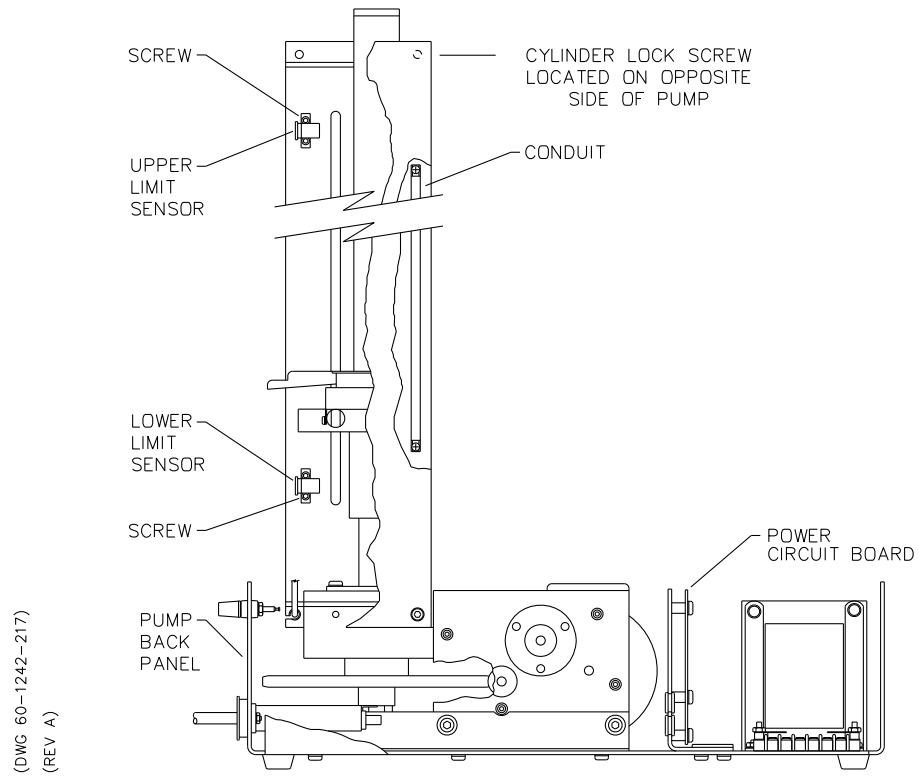

Figure 5-10 Limit sensor replacement
5. The limit sensor assembly includes two limit sensors, the wire harness and connector, and a conduit which protects the wires running between the sensors, Figure 5-10.